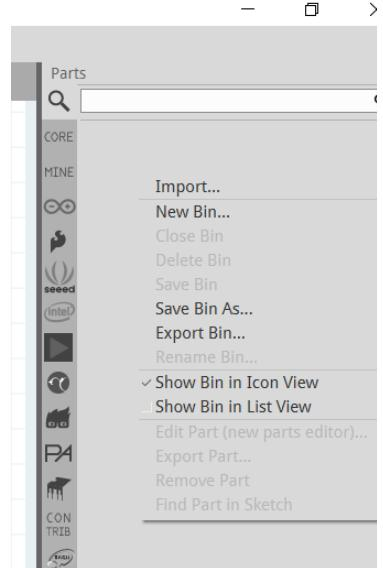

Figure 1. Right click menu in fritzing, note the import button on the top.
- Start Fritzing; right-click in the top right region labeled "Parts" and select "Import..." from the menu as demonstrated in Fig. 1. You will then point the application to each of the libraries (i.e., "tsop382.fzpz") wherever you downloaded and extracted them on your computer.